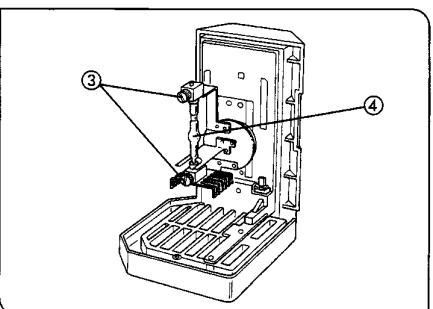

Fig. 4
3. Place the socket upside down as shown in Fig. 4.
- ④ Loosen the two burner clamping screws ③ to remove the transport lock when using the unit for the first time or to remove the old burner when replacing with a new one. (Fig. 4)
4. Securely attach the + pole of the specified mercury burner ④ to the upper mount and the - pole to the lower mount. (Fig. 4)